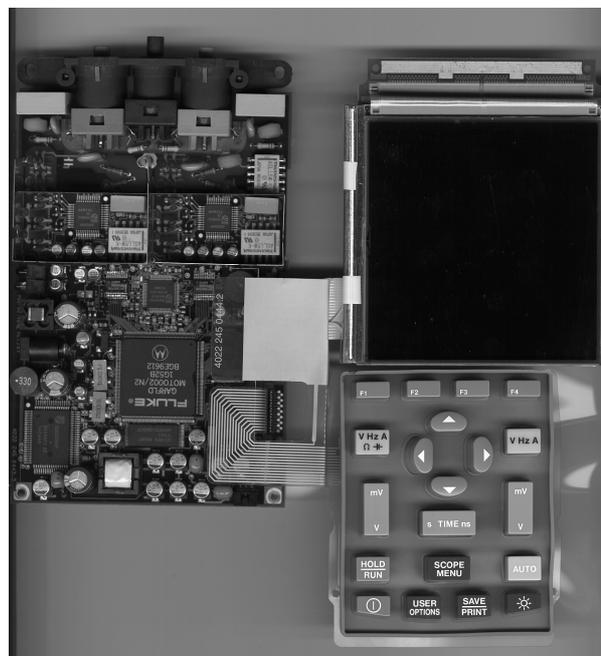

Figure 7-1. Operative Test Tool without Case
3. Connect the Display Assembly flat cable, the Backlight cable, and the Keypad Foil flex cable to the Main PCA unit. Position the Keypad on the Keypad foil. See Figure 7.1. The Test tool without the case is operative now.